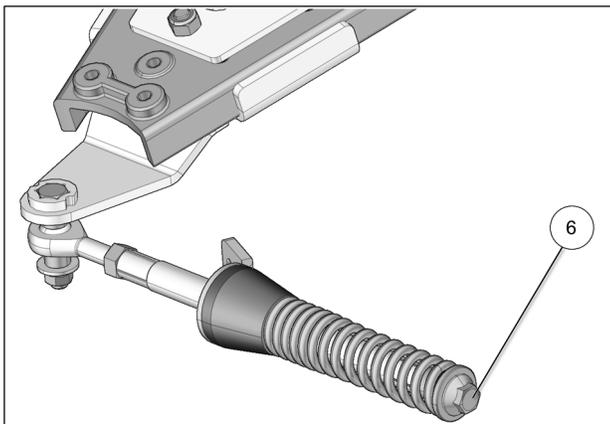

Fig. 26
13. Verify that spring assembly bolt (6) is tightened to the recommended torque specification: 75 N•m [55 lb•ft]. Refer to Fig. 26